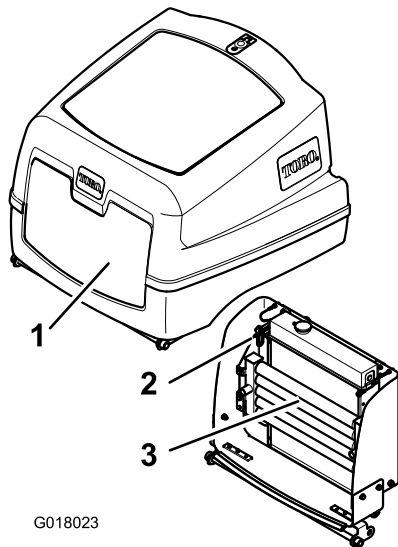

Figure 42
4. Release the latch and open the engine cover (Figure 42).